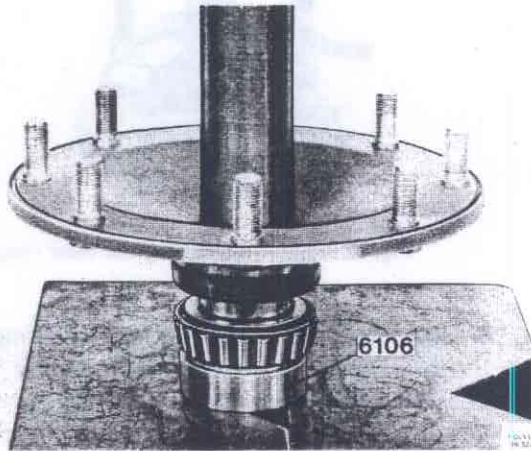

Fig. 77-13. Installing the outer bearing inner ring
7. Press on the outer bearing inner ring with sleeve 6106, see Fig. 77-13.
- Press on the new wear ring and the bearing inner ring on the stub axle with press ring 6106, Fig. 77-13.